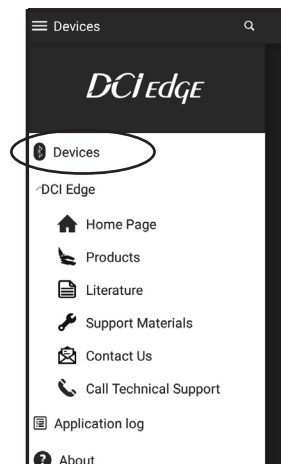
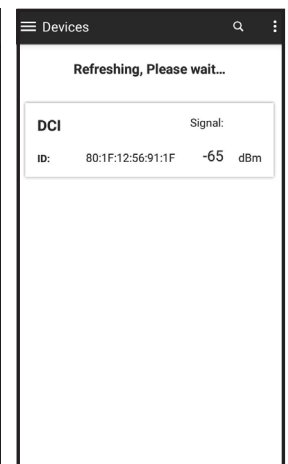

Fig. 1
Fig. 2
**3 Connect:** Choose Devices from the main menu (Fig. 1). From the Devices Screen, tap on the device listed to connect to it (Fig 2). To avoid confusion, do not make more than one chair discoverable at a time.